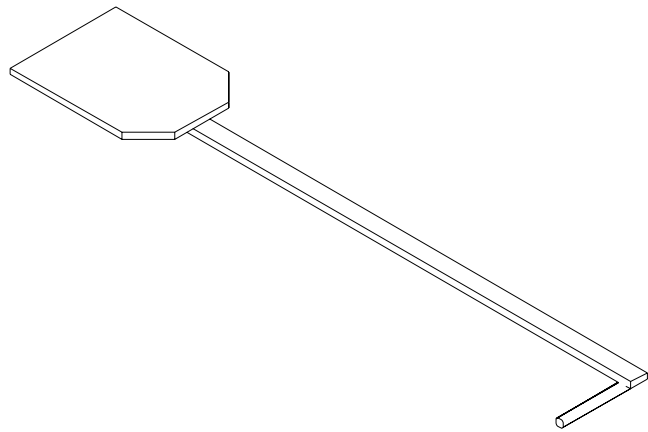
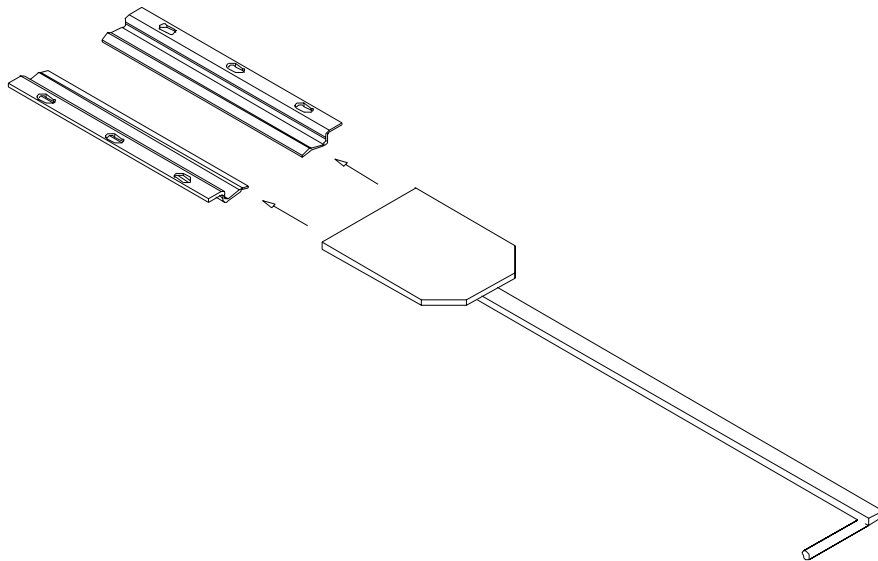

FIGURE 2.4.1
FIGURE 2.4.2
6. Locate air control plate Fig 2.4.1 (shipped inside firebox). Slide air control into tracks on firebox bottom as indicated in Fig 2.4.2.